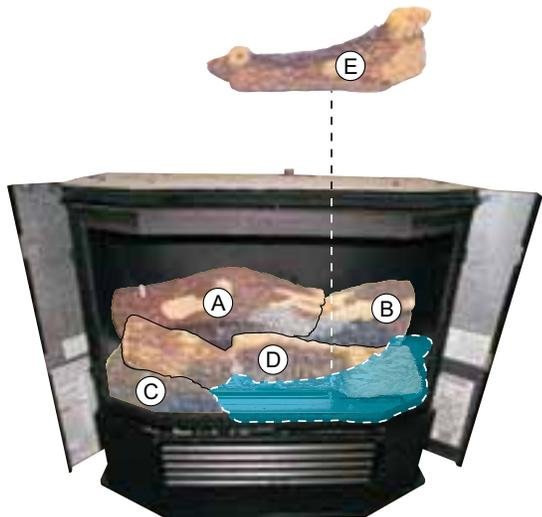

Figure 60
7. Place the Front Right Log (E) in the right front corner of firebox. It should fit snug into the corner. See Figure 60.